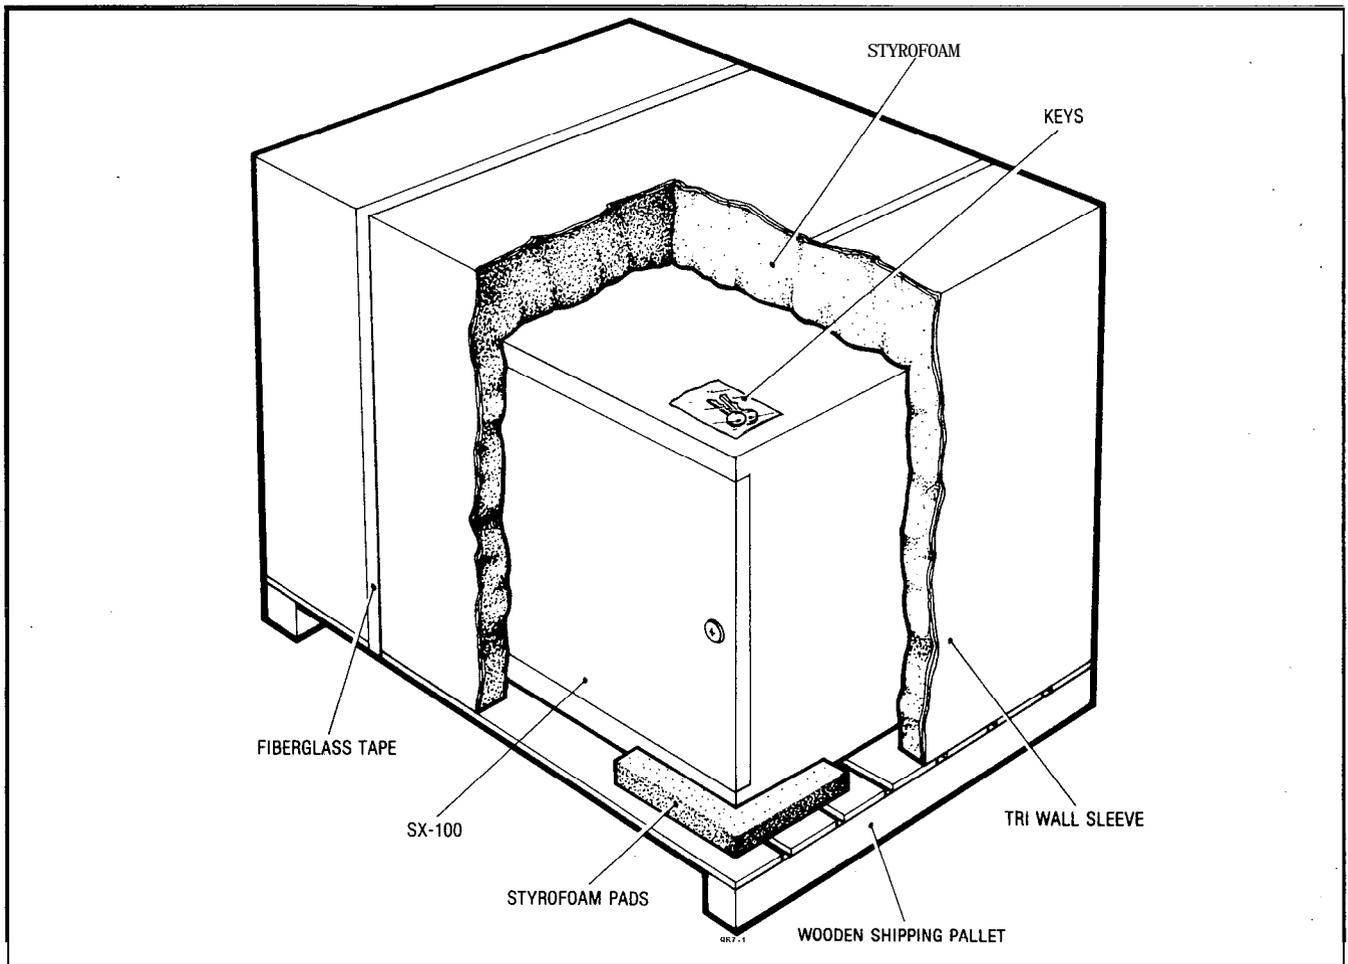

Fig. 4-1 System Packaging
4.01 The equipment is shipped with some cards and all shelves in position. The equipment cabinet is enclosed in a polyethylene sheet and positioned on the shock absorbant shipping pallet. Foam sheet is placed around and on top of the cabinet to protect it from damage and the complete assembly encased in a tri-board sleeve. Four transportation straps are then fastened to the pallet to prevent any movement of the cabinet package. The tri-wall cap is placed over the sleeve, and the complete assembly secured to the shipping pallet by two metal retaining straps. Figs. 4-1 and 4-2 respectively show the packaging arrangements for the SX-100 and SX-200.
8.01 When the PABX equipment is shipped from one location to another, all items must be packaged to prevent damage. Figs. 4-1 through 4-5 show how the equipment was originally packaged. This method of packaging should be followed as closely as possible.